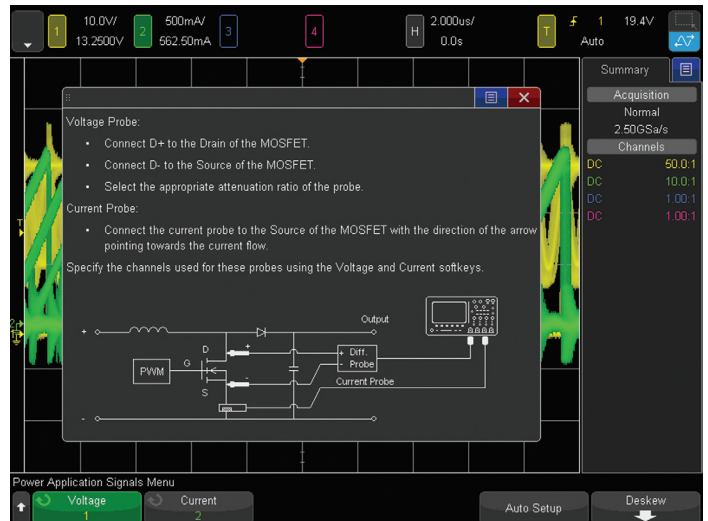

Figure 15: Connecting the voltage and current probes to the transistor switching device
5. Connect the N2790A high-voltage differential probe between the scope's channel-1 input to the drain/ collector (red lead) and source/emitter (black lead) of your switching transistor as illustrated in the on-screen connections diagram of Figure 15. If using Keysight's SMPS training kit, connect to TP3 (red lead) and TP4 (black lead).